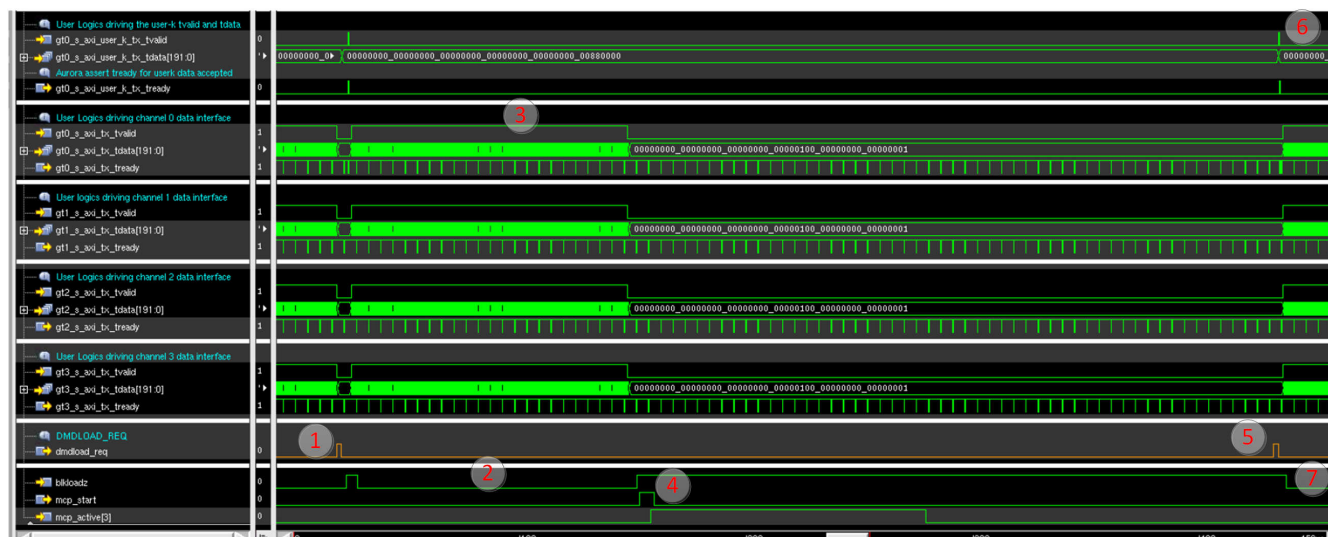

Figure 8-19. DMDLOAD_REQ Delayed Assertion Waveform
- Refer to Figure 8-19 for a scenario where the Apps FPGA chooses to send the DLPC964a DMD data block, but delay the assertion of the DMDLOAD_REQ.